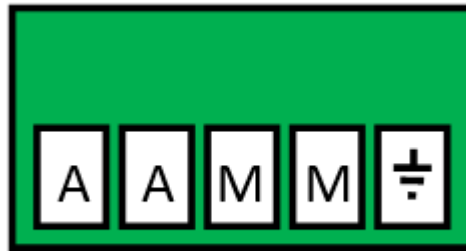

Fig. 4-2 5 Position connector wiring example
5. If desired, wire the 5-position dry relay connector. Recommended wire strip length is 7mm, with a max torque of 5.0 Lb-in. as shown in Fig 4-2 for reporting to the traffic controller.